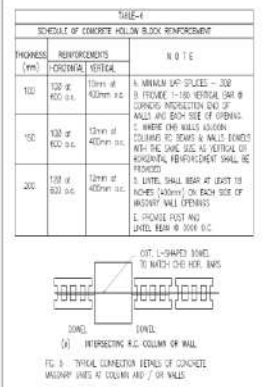

FIGURE 5: TYPICAL CONNECTION DETAILS OF CONCRETE WALL REINFORCEMENT
6. FOR TYPICAL CONNECTION DETAILS ON WASTEWATER LEVELS REFER TO FIGURES 5, 6 & 7 RESPECTIVELY.
7. TYPICAL CONNECTION DETAILS ON WASTEWATER LEVELS REFER TO FIGURES 5, 6 & 7 RESPECTIVELY.